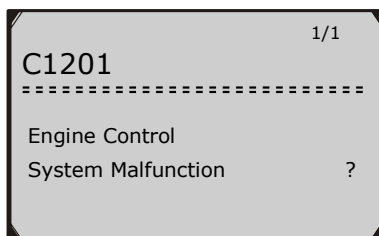

Figure 4.3
3) Review selected data on screen. (Figure 4.3)